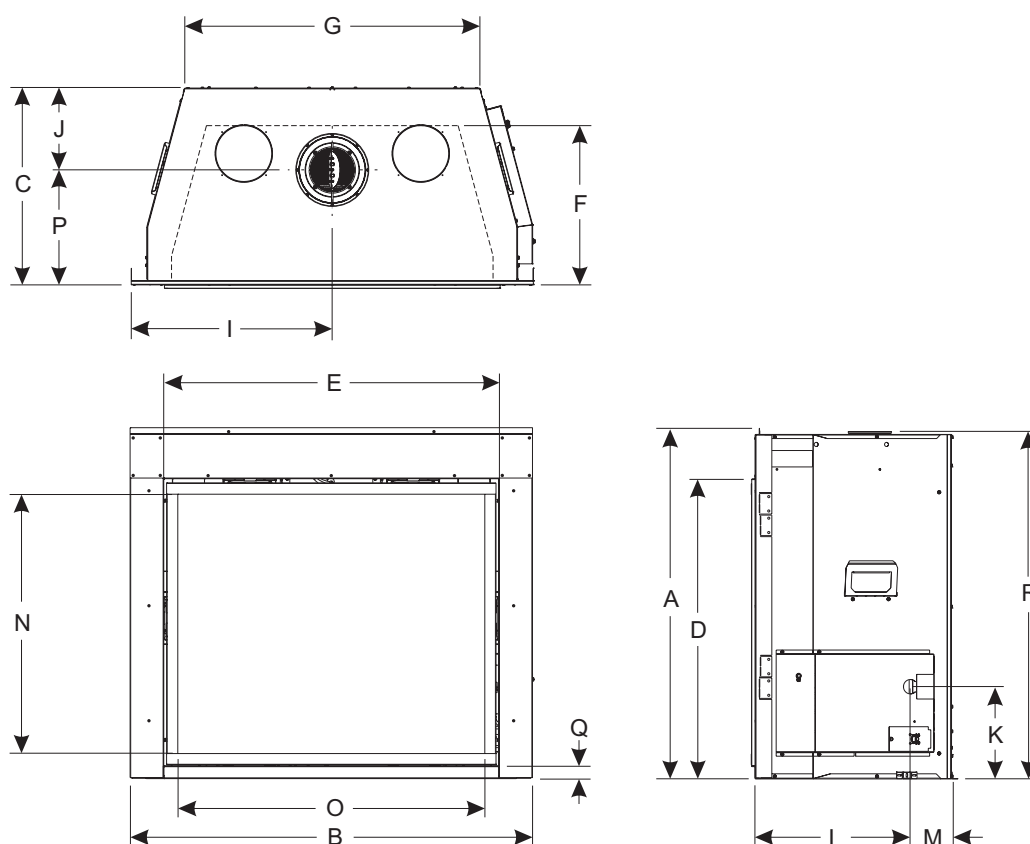

Figure 1
5. Replace Blower Access Panels removed in step 1 (**Figure 1**).